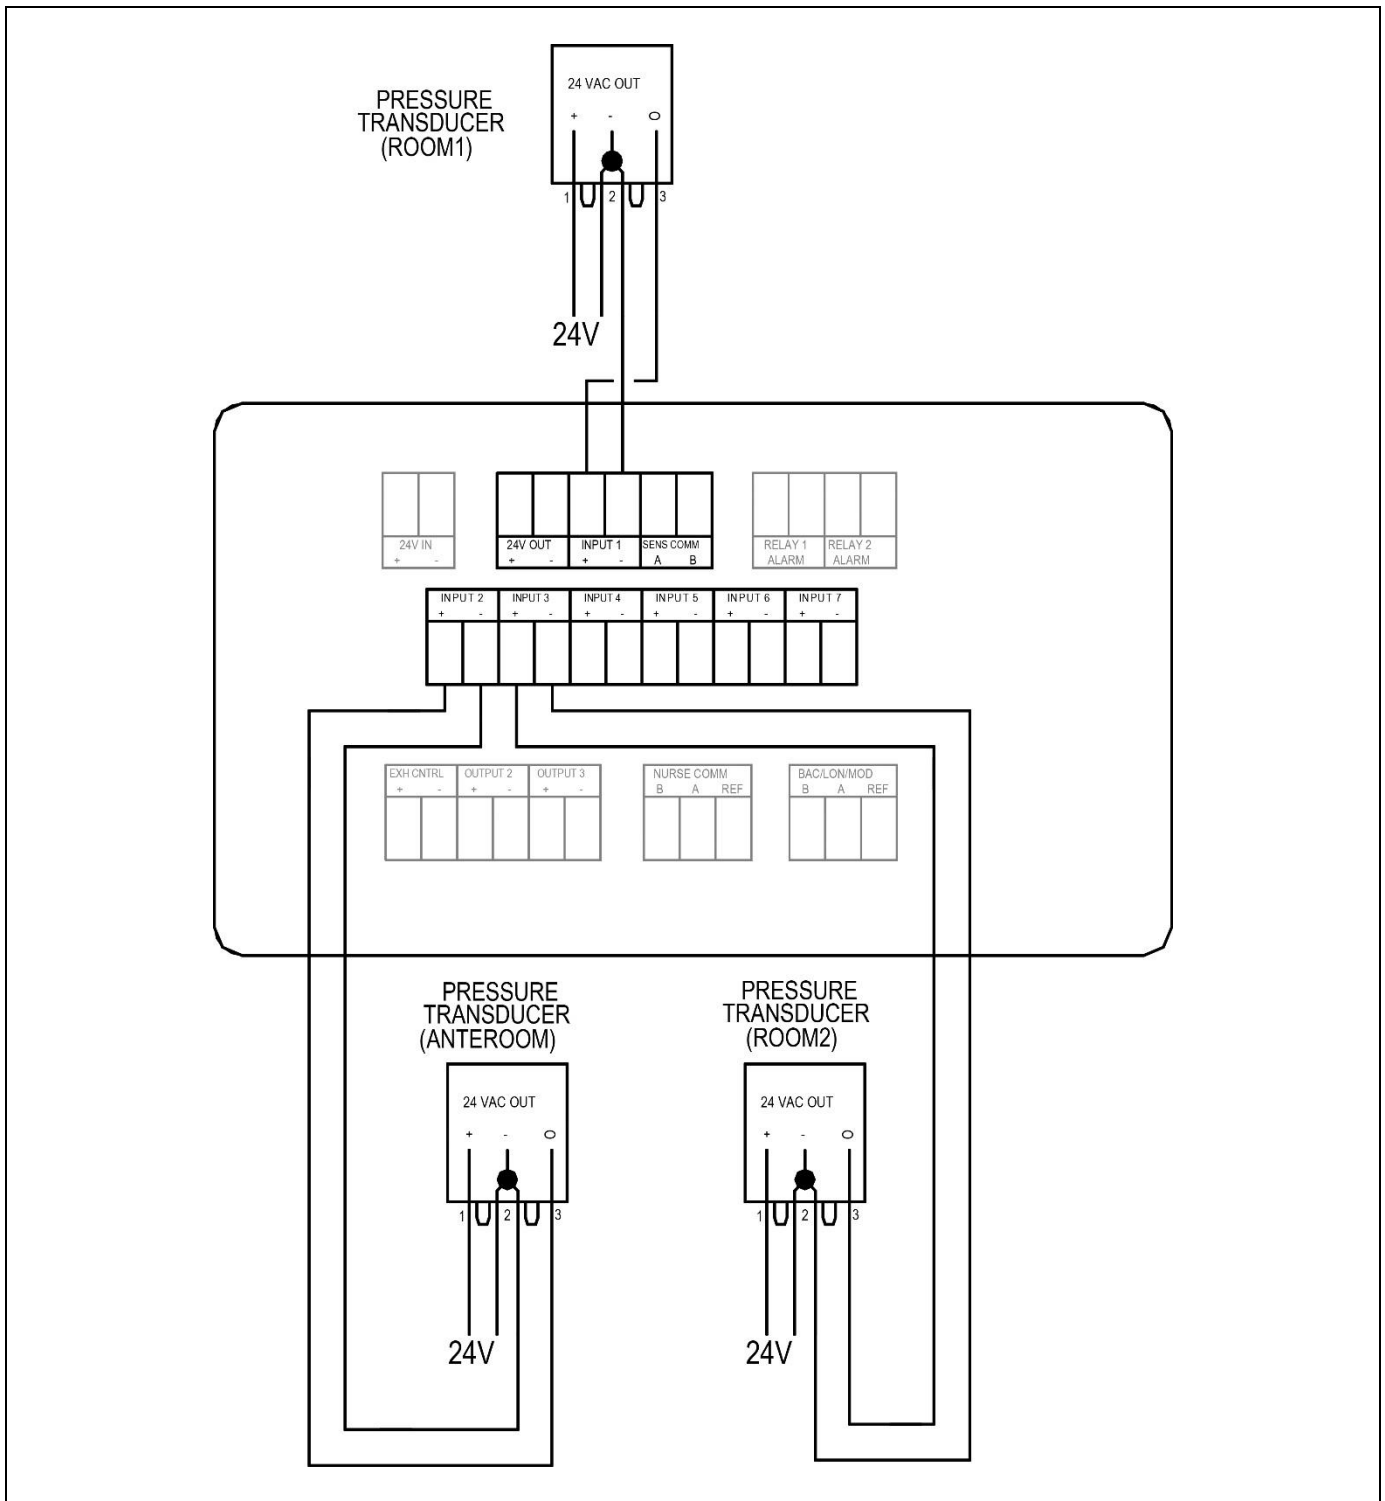
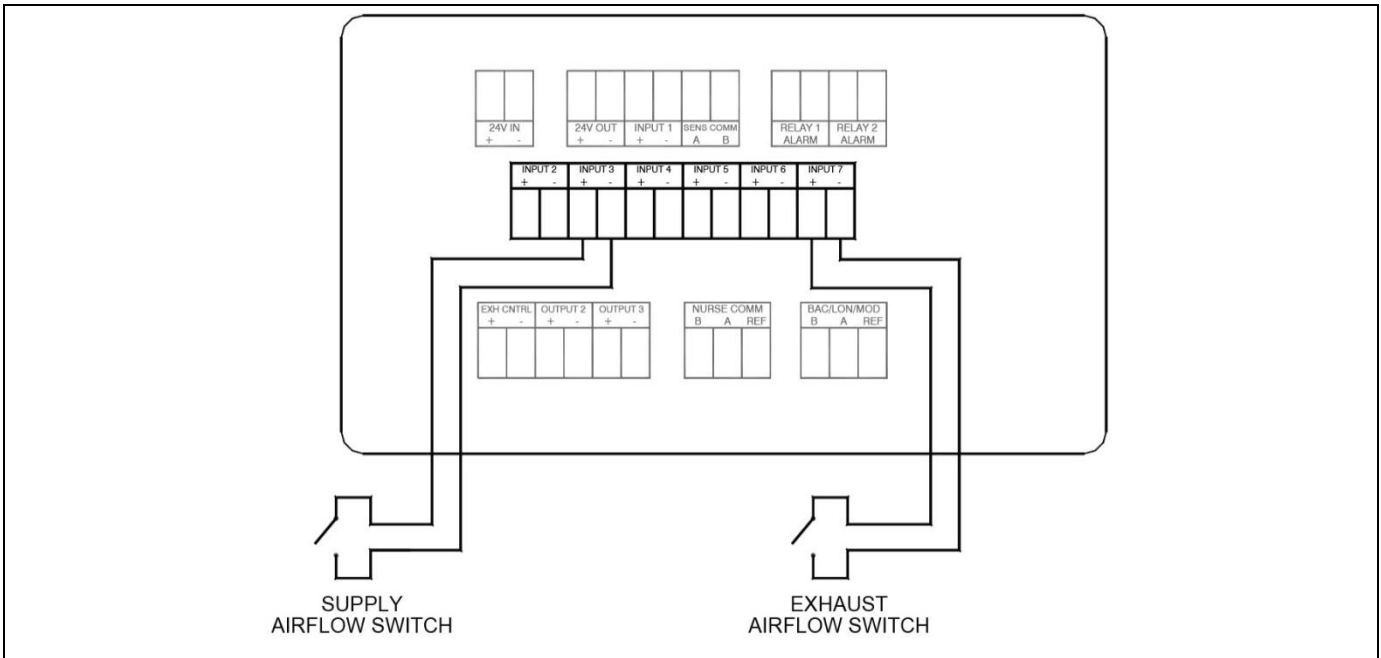

Figure 9. Pressure Transducer Sensors Wiring to Model RPM10 / RPM20
Figure 10. Optional Supply / Exhaust Flow Switch Wiring to Model RPM10 / RPM20
- Wire the pressure transducer per Figure 9 or Figure 10. Run sensor cable to the Clean Room Pressure Monitor 6" x 4" electrical rough-in box.